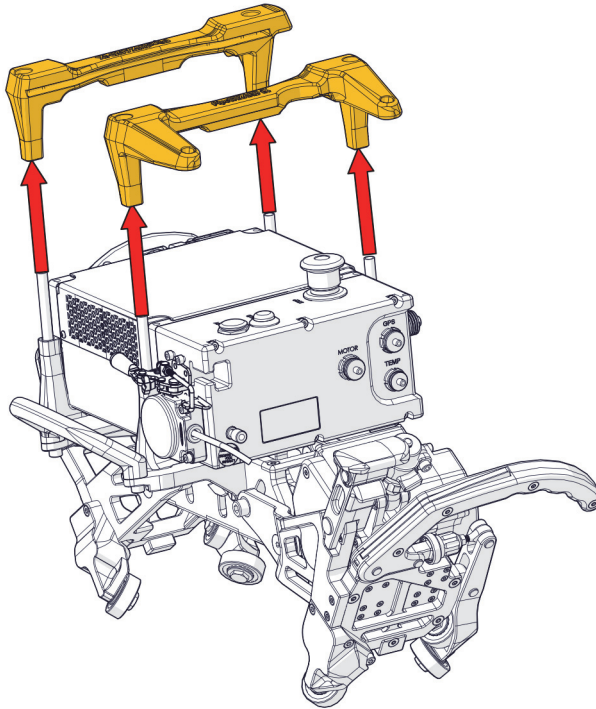

Figure 2-2 Remove the top bumpers
2. Remove the top bumpers from the acquisition unit (see Figure 2-2 on page 84).